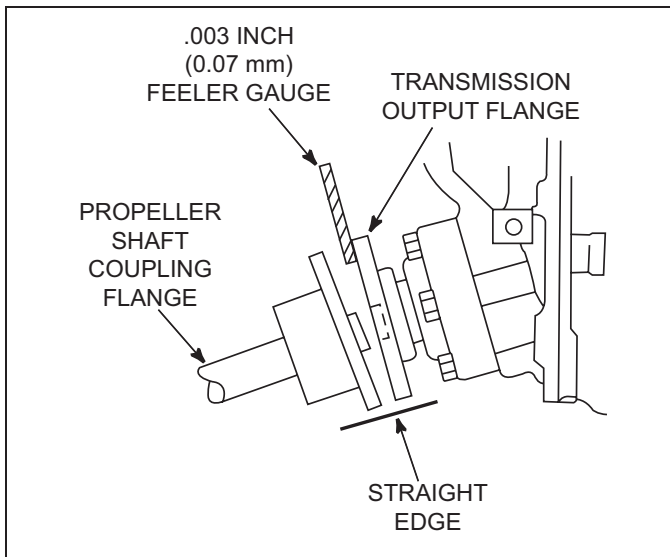

Figure 11-25 Angular Alignment
4. Fill the engine with the recommended oil, see OIL REQUIREMENTS, through the oil fill location on the valve cover (Figure 11-25).
NOTICE: Some propeller shaft couplings may not have a shoulder on the mating surface. On these installations, use a straight edge to check the centerline alignment (Figure 11-25).